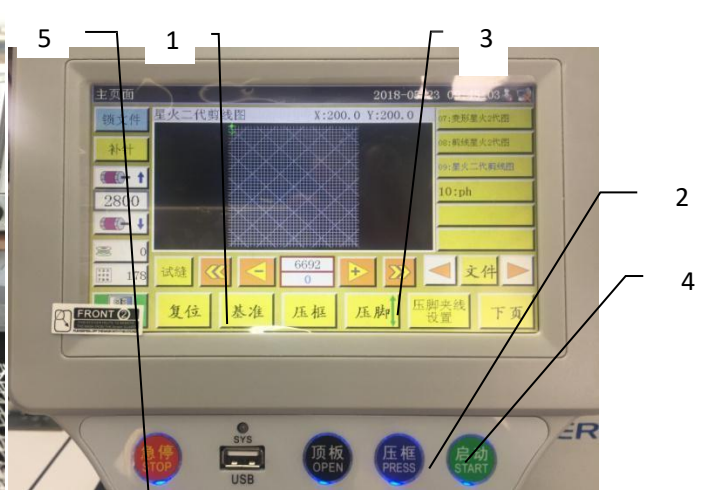

fig 39
2.18.5.2 As shown in figure 39 press the press box button 2 on the operation button panel and press the pressure plate.
After setting the benchmark enter the operation display panel interface as shown in figure 39 press the button all the time 3 will enter the simulated sewing pattern track the button 5 (figure 39) is required to stop the operation during the simulation operation.
As shown in figure 39 put the template in the reset position press the box button 2 in the operation button to loosen the template to the two cylinders on the linear module.
As shown in figure 39 press the start button 4 on the operation panel to start sewing and enter the automatic sewing state.
As shown in figure 39 press the red emergency stop button on the operation panel to stop the machine immediately.
After the above unexpected situation as shown in figure 39 rotate the red emergency stop button 5 to make it pop up and remove the emergency stop state and then press the start button 4 to resume automatic sewing.